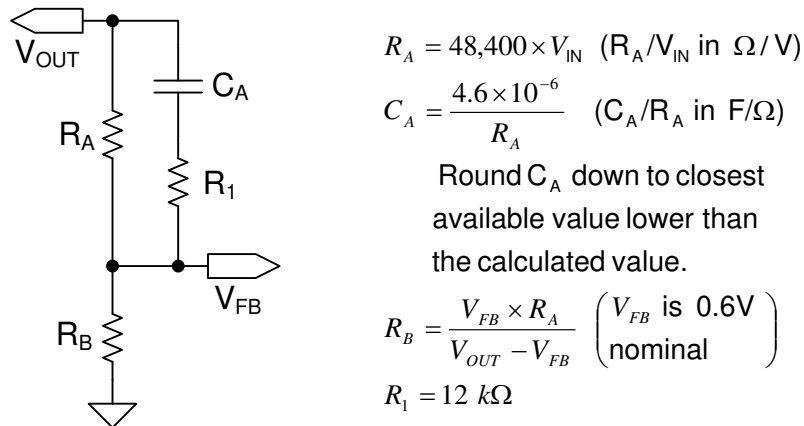

Figure 1: Output voltage programming and loop compensation.
- The EN63A0QI features a customer programmable output voltage by means of a resistor divider. The resistor divider allows the user to set the output voltage to any value within the range 0.6V to $(V_{IN} - V_{DROPOUT})$. The Dropout voltage is $\sim 0.05 \cdot I_{LOAD}$ (see Figure 1). The evaluation board, as shipped is populated with a single R_A , and three possible R_B resistors. The R_B resistors can be chosen by jumper settings to achieve several output voltages.
- The EN63A0QI includes the bulk of the compensation network internally. However, an external phase-lead (zero) capacitor and resistor is required as part of the feedback. This network is shown in Figure 1. Appropriate component values allow for optimum compensation for a given Input voltage and choice of loop bandwidth. The equations in Figure 1 provide the details to calculate the component values.
you always need a jumper in the leftmost position of J5 as shown in Figure 3. If all other jumper positions are left open, then R_B will be open, and V_{OUT} will be 0.6V nominal. The other positions will select the three possible R_B resistors. Table 1 shows the R_A and all possible R_B values, and the resulting V_{OUT} for each combination of R_A and single R_B . Please see Figures 1 and 5. It is possible to use parallel combinations of the three R_B resistors to get other output voltages. Please note the R_A , C_A , and R_B values for this board have been optimized for an input voltage of around 6V using the equations in Figure 1. The part will be stable for lower V_{IN} values, but to get optimum transient response, new R_A , C_A , and R_B values have to be calculated and installed.
Table 1 – V_{OUT} resistor divider values and the resulting output voltages if only a single R_B is used. You could use more than one R_B and get other output voltages. Use the third equation in Figure 1, and solve for V_{OUT} .